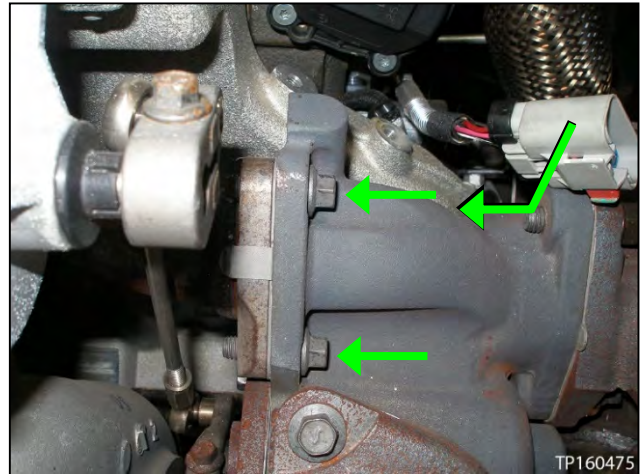

Figure 33
20. Remove the three (3) EGR bypass tube bolts (see Figure 33).
- The third bolt cannot be seen in Figure 33.